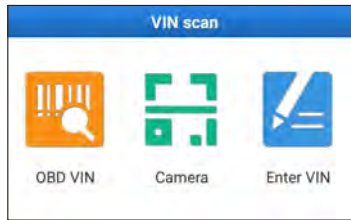

Fig. 5-4
1. Tap "VIN SCAN" to enter Fig. 5-4.